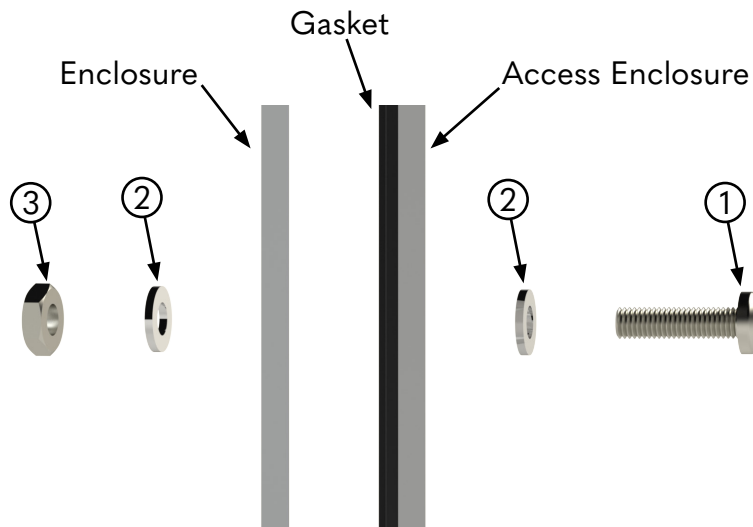

Figure 1: Mounting Hardware Orientation
7. Install the mounting hardware as shown in Figure 1. Insert one Screw (Item 1) with one Washer (Item 2) through each mounting hole. From the opposite side of the enclosure, install one Washer (Item 2) followed by one Nut (Item 3) onto each Screw.